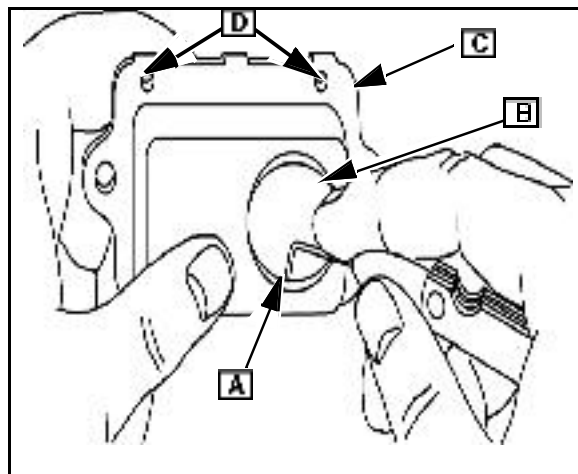

Fig. 34
3. A 0.045 in. (1.14 MM.) wire gauge (A) should *not* enter the space between the fiber disc valve (B) and the body (C). The breather holes ([D] Fig. 34) must be open.
4. Check as shown in. Fig. 34.